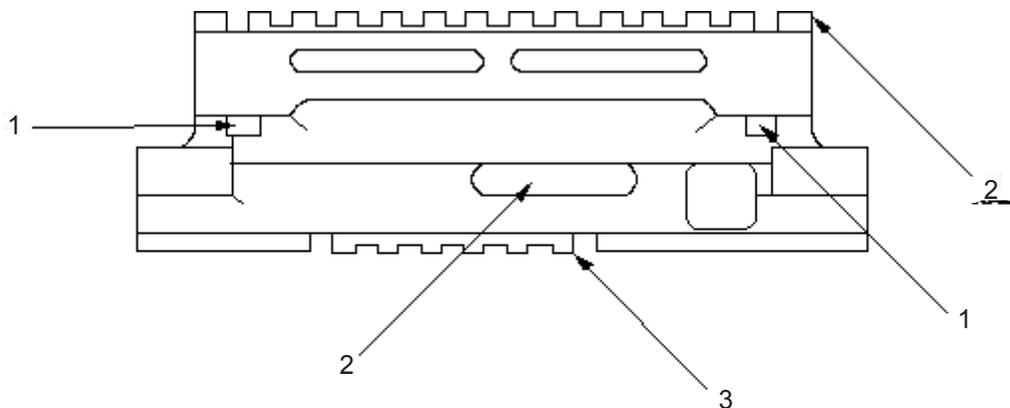
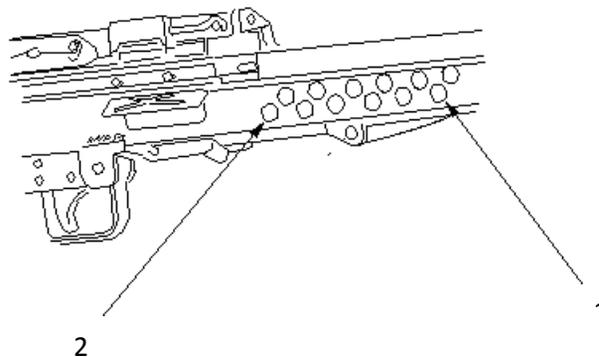

Figure 5. Right Rail Adapter
Figure 6 Holes for Accessory Rails Studs.
1. Install the right rail adapter (the one with two rails) (Figure 5, Item 3) on the right side of the receiver. This rail has a relief cut (Figure 5, Item 2) for the tab located on the bottom of the receiver to allow the rail to fit flush against the bottom of the receiver. This allows the two studs (Figure 5, Item 1) to fit into the holes on the side of the receiver (Figure 6, Item 1 and Figure 6, Item 2).